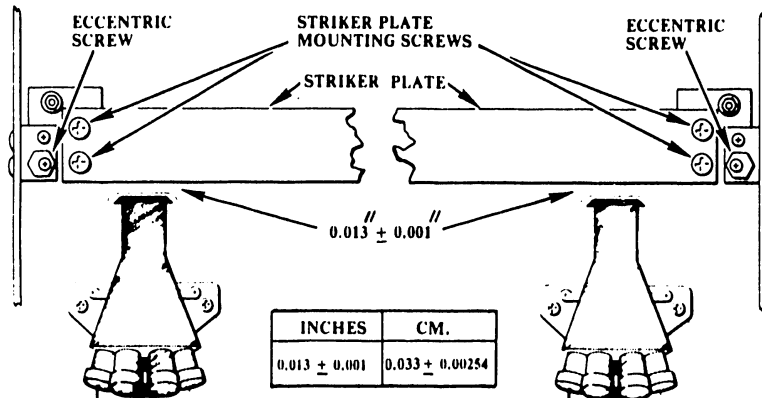

FIGURE 6-10 STRIKER PLATE ADJUSTMENT
- 3) Loosen the four Phillip head screws holding the striker plate to the platen mounting brackets (see Figure 6-10).
- 4) Adjust the striker plate in or out to meet the adjustment of  $0.013" \pm 0.001"$  ( $0.033$  cm) by moving the two eccentric screws. (See Figure 6-10.)
- 1) Loosen the four screws holding the striker plate to the platen-mounting bracket (see Figure 6-10) slide striker plate to front of printer and tighten the four screws.
- 3) Loosen two screws holding platen-mounting bracket on left side frame and adjust in or out for a gap of  $0.013" \pm 0.001"$  ( $0.033 \pm 0.00254$  cm) between striker plate and solenoid wires. Tighten screws. (See Figure 6-10.)